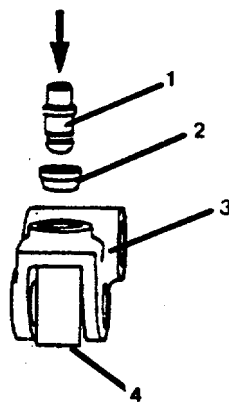

FIGURE 4-41. Cup Plug Installation in Cam Follower Shaft.
- (5) Position roller (4, FIG. 4-41) in cam follower (3) when installing socket (2).
- (6) Use a brass drift or used push rod (1) and an arbor press to install socket (2). Ensure socket touches the bottom of the bore in the cam follower (3).